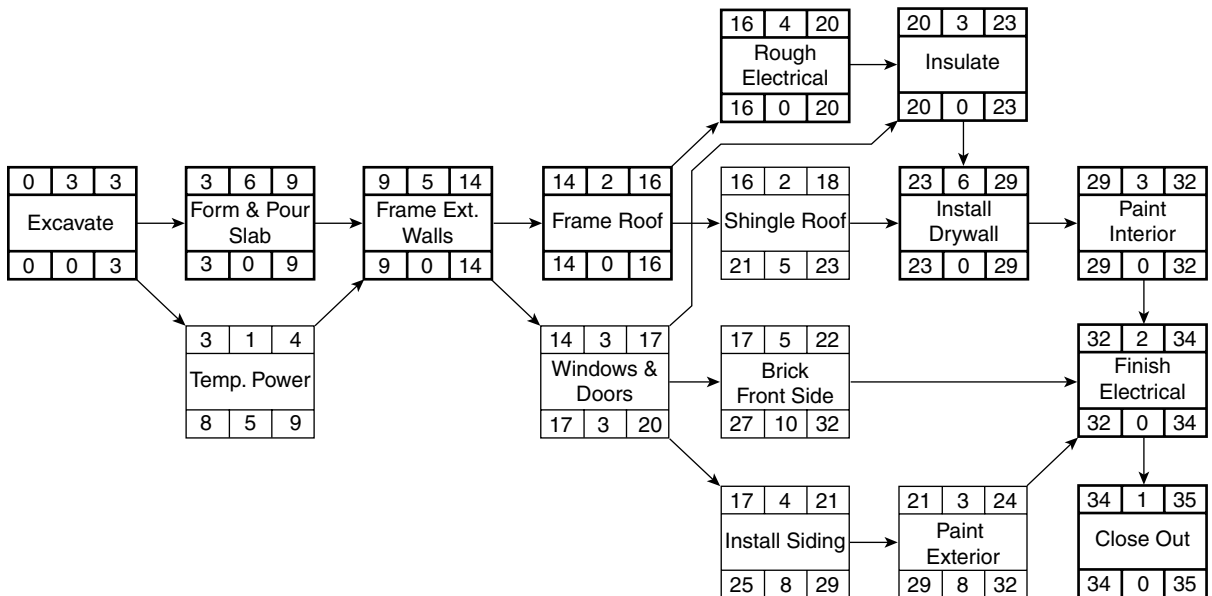

FIGURE 8.15 Warehouse project with all calculations completed
To complete the calculations on the warehouse schedule, look at the difference in the start days or the finish days and record that number as the activity's total float. Figure 8.15 shows the warehouse project with all the calculations completed.
Critical activities are the activities that have no total float. The activities that have zero total float obviously have no extra days; therefore, they are critical. They have to start and finish on those days. In the diagram shown in Figure 8.15, the critical path activities have bolded activity boxes. Their ES and LS days are the same day. Their EF and LF are also the same day; therefore, they are critical activities. This path of zero float activities
On the warehouse schedule shown in Figure 8.15, let’s say the carpenters who are to frame the exterior walls start on time, but take 7 days to complete rather than the 5 original days duration and, therefore, finish on day 16. Is this a problem? Notice that framing the walls is a critical activity. By finishing on day 16, they are 2 days beyond their late finish date and so they have caused a delay in the entire project. In order to make up for that delay, which later activities would be considered for acceleration in order to get on schedule? If the brick, windows, siding, or exterior paint were to be accelerated, would that make up for the delay? The only way to make up for the delay would be to focus on the critical path activities. The challenge is to determine which activity or activities to be accelerated would have the least effect on project quality, cost, or safety. There are three things that can be done to accelerate the activities on the critical path: (1) decrease the duration by using more equipment or people; (2) schedule to work on weekends, overtime, or multiple shifts; and (3) change the logic to have two or more critical activities work concurrently.
Let’s look at another scenario: The *Install Siding* activity (Figure 8.15) starts on time but ends up taking 7 days to complete rather than the 4 originally agreed to, finishing the end of day 24. Is that a delay to the project? According to the CPM logic diagram, *Install Siding* does not have to finish until the end of day 29, so that does not constitute a delay. However, that would affect the early start day of *Paint Exterior*, and a new calculation would show *Paint Exterior* to now have only 5 days of total float.
Let’s say that the owner is proposing to change the roof shingles from asphalt to tile, which would take 5 days to install, rather than the 2 days originally planned (Figure 8.15). Would that affect the completion date of the project? As long as the roofing material can be available in time, that change would not affect the project completion date. *Shingle Roof*
Consider another potential change. The owner is proposing to change the slab to a 12-inch-thick slab, which will increase the time to form and pour the slab to 8 days instead of 6. Does this justify an extension of contract time (Figure 8.15)? Absolutely; *Form & Pour Slab* is a critical activity and if it is delayed, the project completion date is extended. Are there any other choices? Yes, the remaining critical activities could be accelerated and accordingly the project could still finish on time. Would there be an extra cost to accelerate the later activities that goes above and beyond the extra cost to form and pour the thicker slab? Certainly! More equipment possibly would be needed or people would be required to work overtime in order to make up for the delay caused by the change order. Is it necessary to hire a team of attorneys and go to court to determine that? It depends on whether or not the owner is an attorney looking for business to keep his staff busy. Other than that, definitely not.